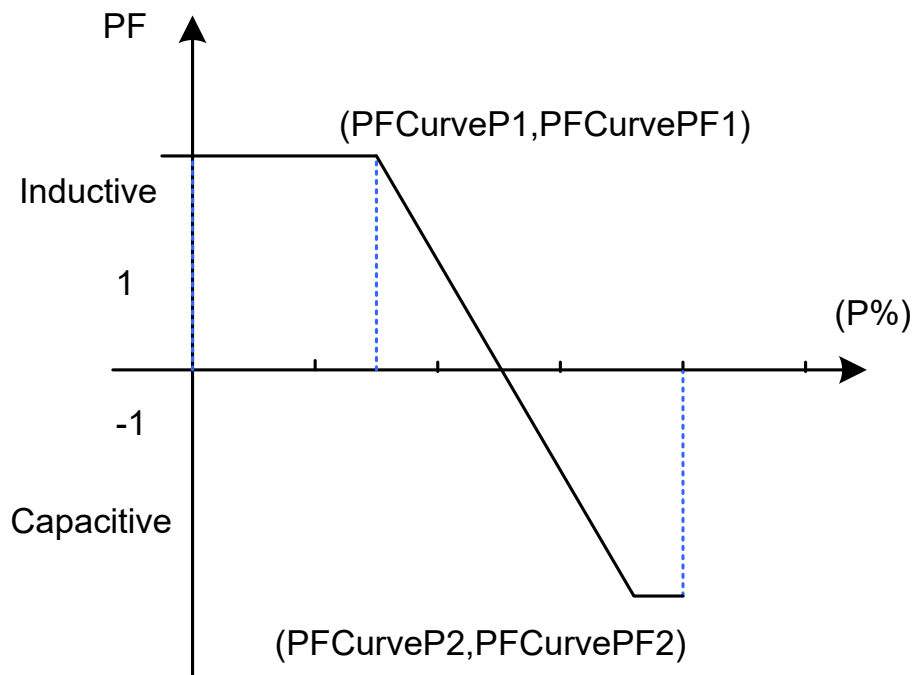

Figure 6-14 PF(P) Curve Mode Curve
- (1) **PF Set:** Set the PF value. This function changes the reactive power by adjusting the Power Factor. **NOTE:** Change the reactive power by adjusting the PowerFactor.
- (2) **PF(P) Curve:** Use this mode to follow the default or user-specified PF curve. **NOTE:** The power factor changes according to the power change, as shown in Figure 6-14.